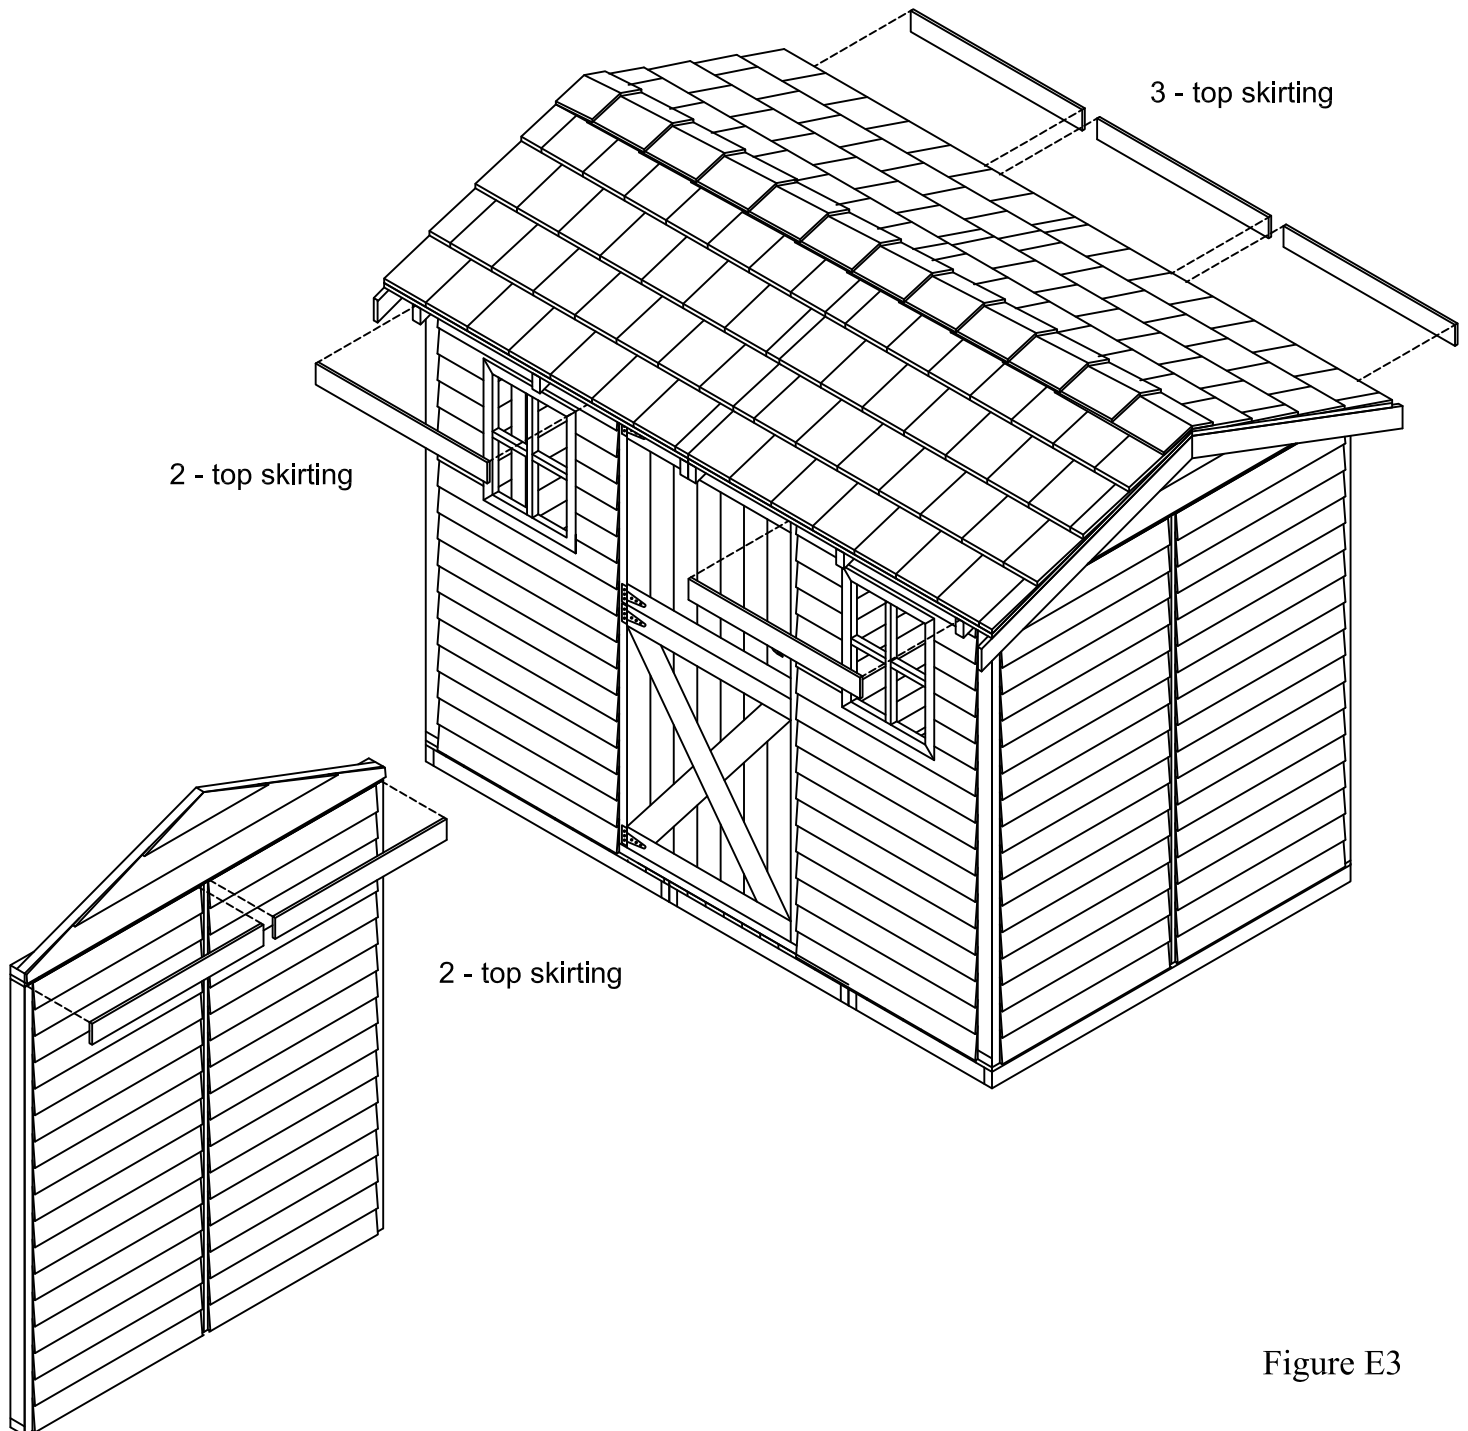

Figure E3
2. Using 1 3/4" finishing nails, complete top skirting assembly as shown in "Figure E3". There should be 9 top skirting pieces. The (1/2x4 1/2" pieces are for the two side sections with only 2 walls each, and the 1/2 x 3" pieces are for the side sections with 3 walls in the back and 1 piece above each window in the front.